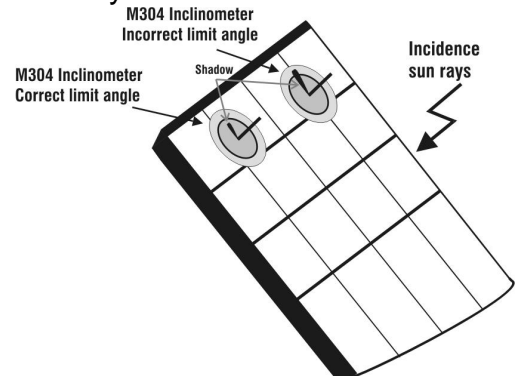

Fig. 7b: Positioning of inclinometer M304
**Verify that the sun shadow falls on the disc within the “limit internal circle” on the disc itself (see Fig. 7b).** If this is not the case, the incidence angle between sun rays and the module surface is too high and not complying with the test conditions declared by the module manufacturer. As a consequence the measurements performed by the meter are not ok and all measurements steps shall be repeated at another daytime